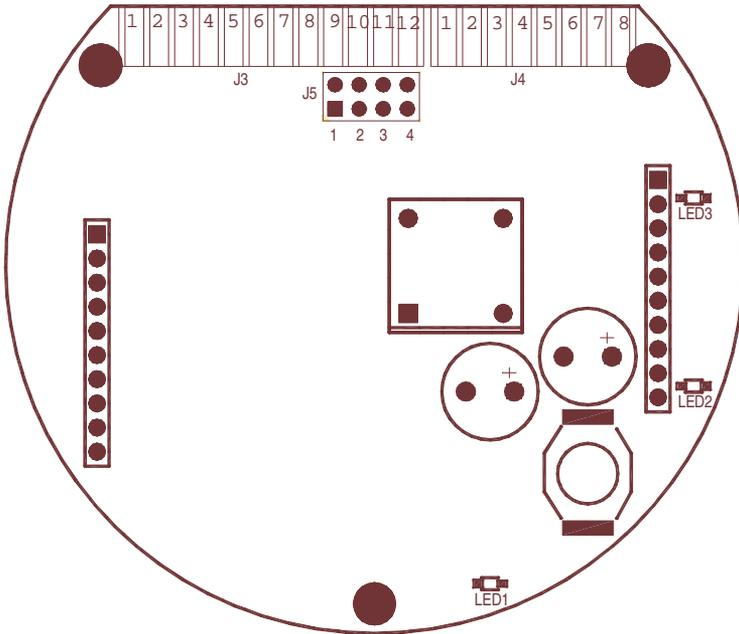

Figure 1: Voltage/Current Select Jumpers
Figure 1 shows the J5 voltage/current select jumpers location on the ER3000. Use them to select between 4-20mA and 1-5V. The 0-10V models of the ER3000 do not have the jumpers.
**(J5 jumpers 3 and 4 must be removed, refer to Figure 1)**